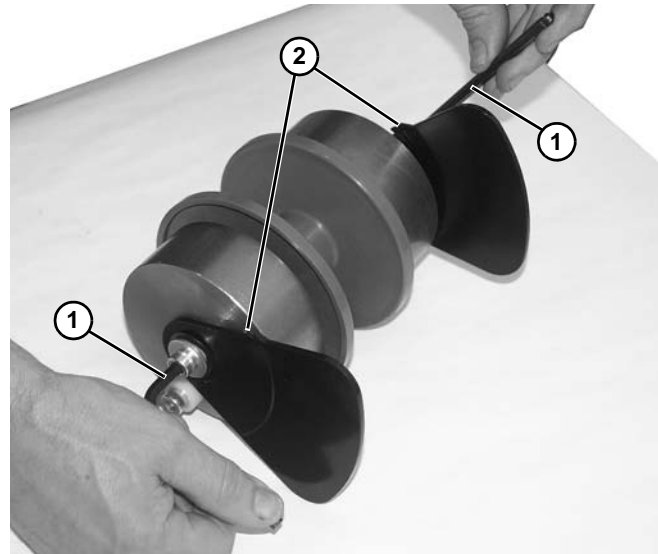

Figure 139
- Install components reverse of removal, using two hex wrenches (Figure 139, item 1) on each side of idler assembly to tighten components.
Be certain that notches (Figure 139, item 2) on both plates are on top side, and spacers are in same orientation, as shown, before tightening components.